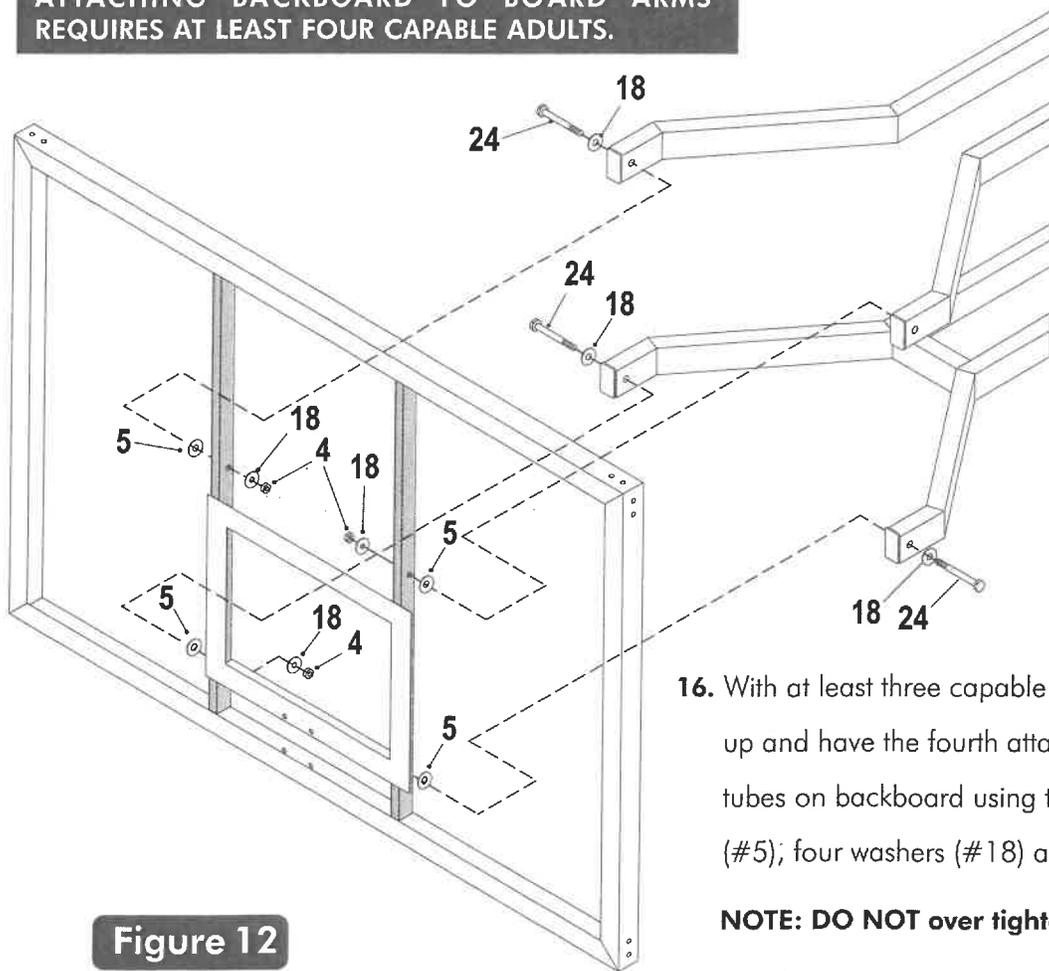

Figure 12
16. With at least three capable people, raise the backboard assembly up and have the fourth attach Lower Board Arms to lower mounting tubes on backboard using two bolts (#24), two plastic washers (#5); four washers (#18) and two lock nuts (#4). See **Figure 12**.
17. Attach Upper Board Arms to upper mounting tubes on backboard using two bolts (#24), two plastic washers (#5), four washers (#18) and two lock nuts (#4). See **Figure 12**.